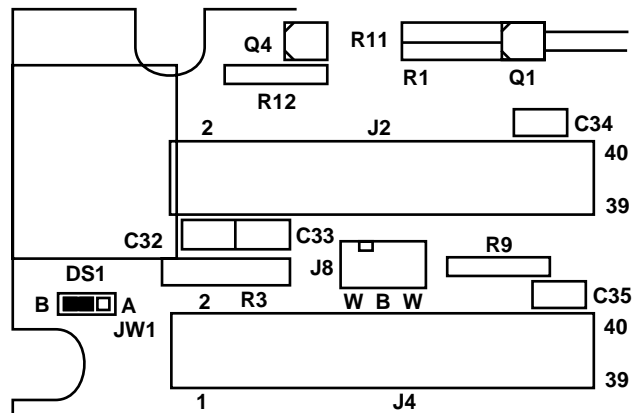

Figure 1-3
4. Locate PC board #40442 immediately behind the front panel. The selectable ground jumper is located at the upper left corner on the component side of the board (see Figure 1-3).
5. Locate PC board #40442 immediately behind the front panel. The selectable ground jumper is located at the upper left corner on the component side of the board (see Figure 1-3).